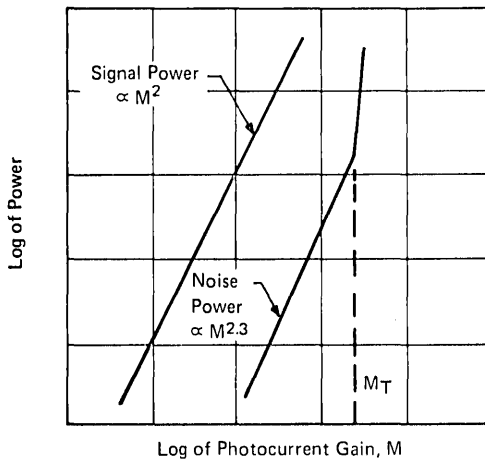

FIGURE 1
3. Gain M_T is measured at the reverse voltage at which the noise deviates from the theoretical linear characteristic. See Figure 1. Radiant flux is as required to give a photocurrent of 0.1 nA rms at $V_R = 40 \text{ V}$.